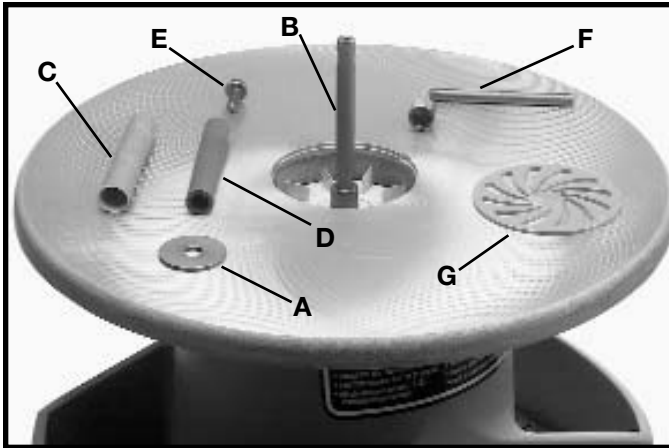
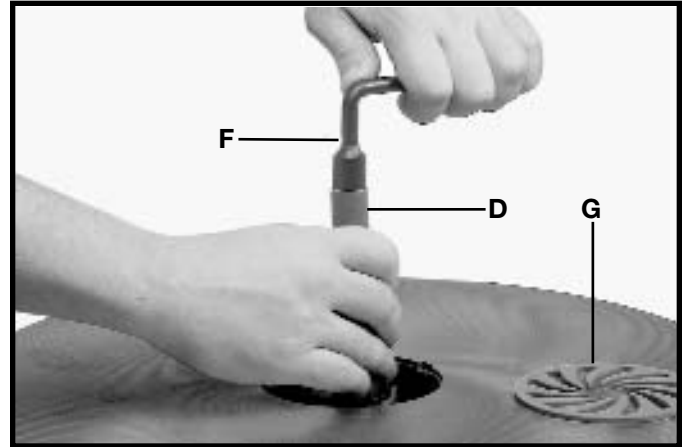

Fig. 10
Fig. 11
1. Place 1-3/4" drum washer (A) Fig. 10, on the spindle adapter (B).
2. Slide the abrasive sleeve (C) Fig. 10 over the sanding drum (D), and attach the sanding drum (D) Fig. 11, with the sleeve to the spindle adapter. Fasten with a 5/16" screw (E) using the socket wrench (F) supplied. **NOTE:** The screw (E) is a left-hand thread.
3. Place the table insert (G) Figs. 11 & 12 over abrasive sleeve (C) and onto the table. **NOTE:** Arrows on the table insert indicate the top surface.